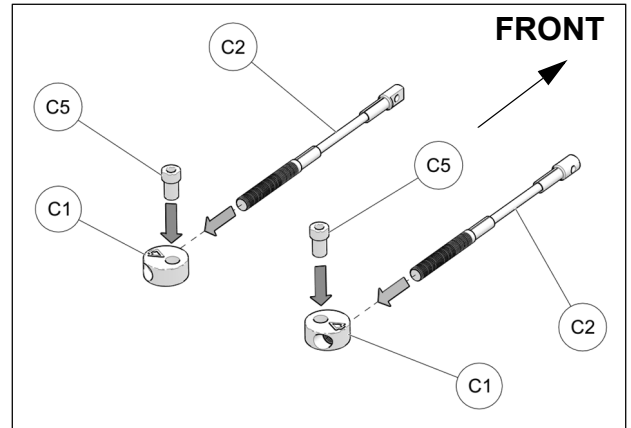

Fig. 23
- Assemble steering limiter cables (C2), aluminum disks (C1) and step spacers (C5) together as shown on Fig. 23